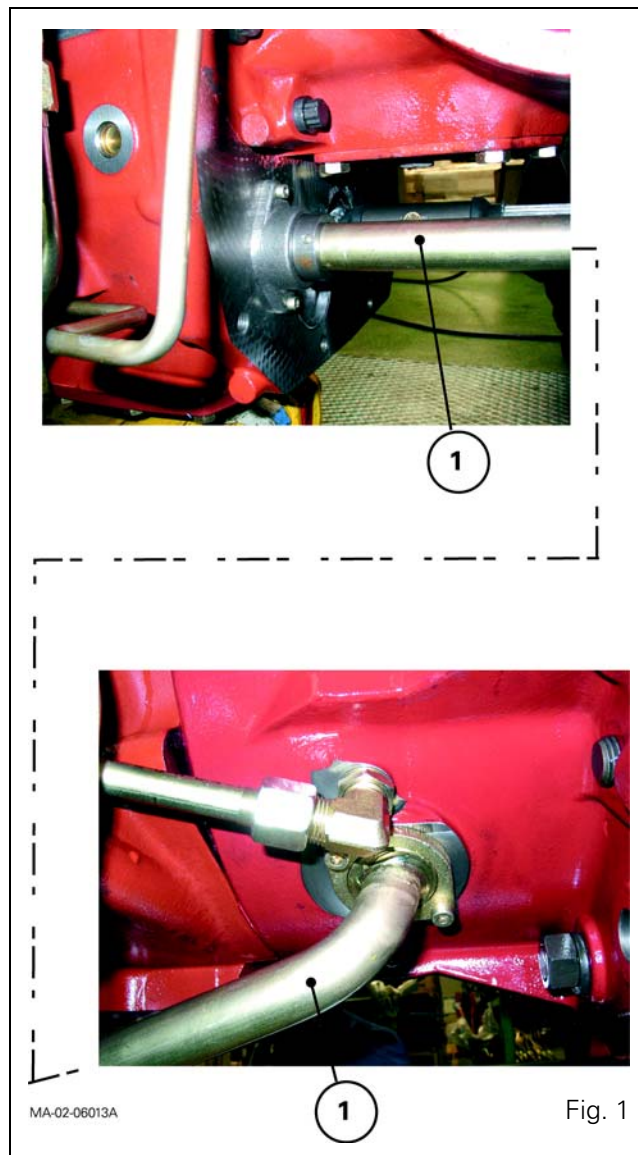

Fig. 1
- the reverse shuttle lubricating pipe (1) located between the centre housing and gearbox (Fig. 1).